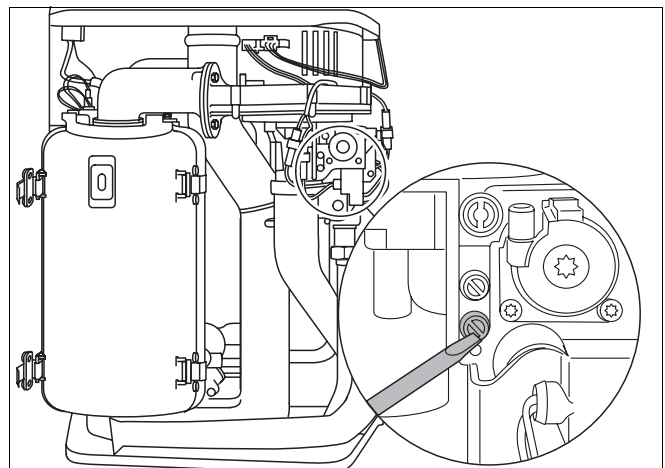

Fig. 18 Purging air from the gas supply system
- Unscrew the sealing closure of the gas connection-pressure testing nipple by two turns (fig. 18).